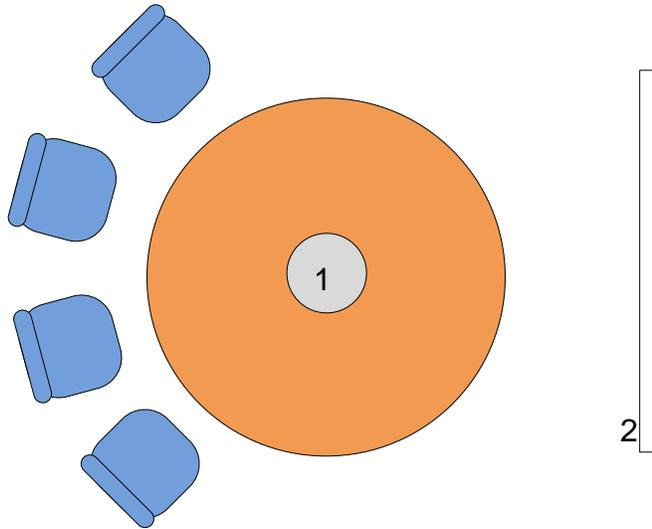

Figure 6. Circular table with one display device
Figure 6 below shows a configuration in a small room with the Polycom CX5000 device (1) and one display device (2). The circular table is 5 feet in diameter.